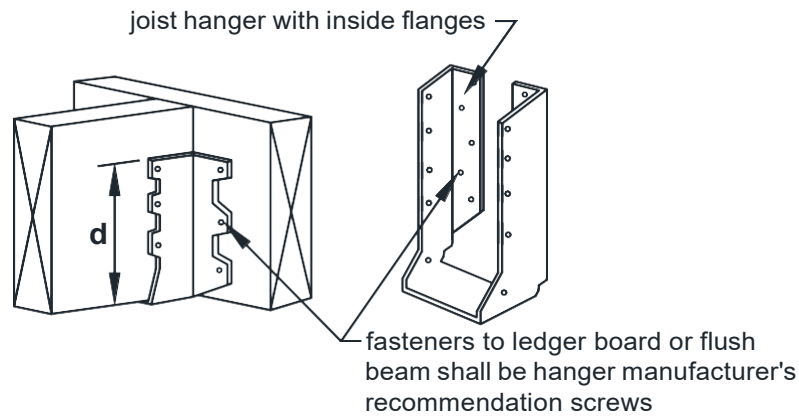

FIGURE 11: JOIST HANGERS
- Joist hanger depth, d, as shown in FIGURE 11, shall be greater than or equal to 60 percent of the joist depth.